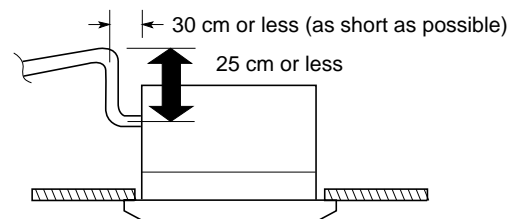

Fig. 3-41
- If it is necessary to increase the height of the drain pipe, the section directly after the connection port can be raised a maximum of 25 cm. Do not raise it any higher than 25 cm, as this could result in water leaks. (Fig. 3-41)